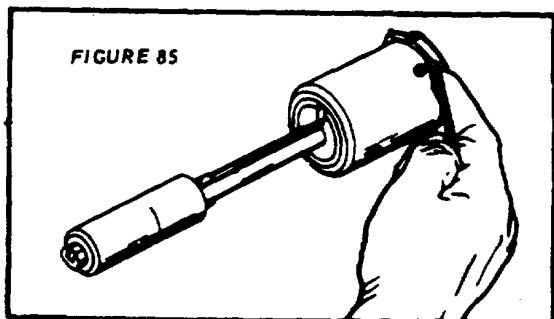

FIGURE 85
- (2) Bearing Tube.
- (b) See Figure 85. Lubricate annually by adding 1 or 2 ounces of MIL-23549 through the vent hole in top of bearing tube (line up hole in Shaft Cover with vent hole).